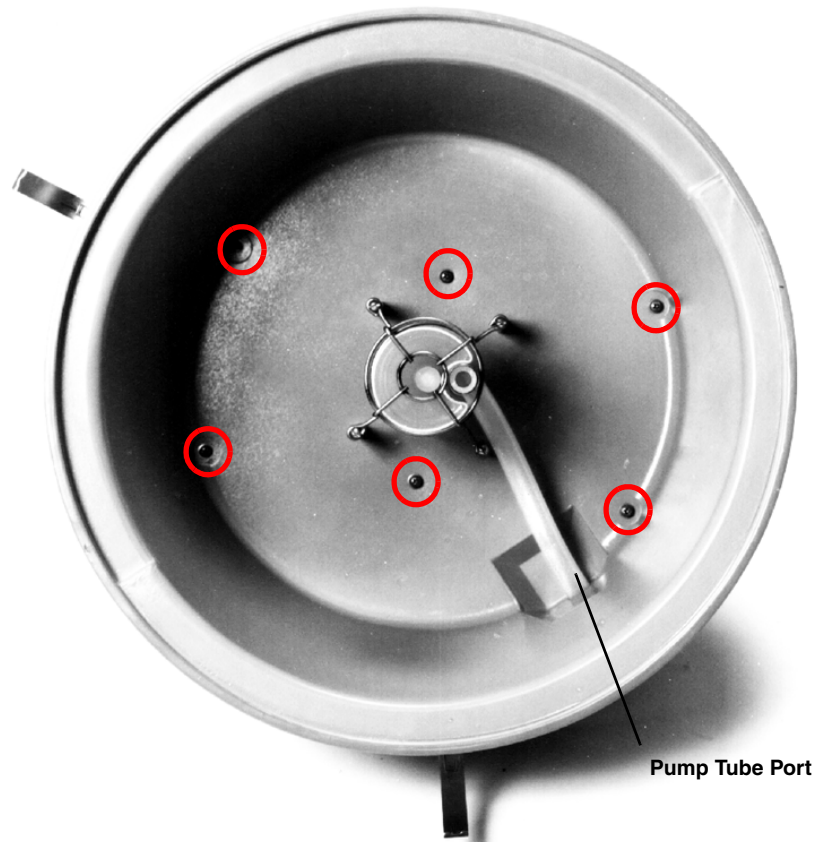

Figure 6-1 Removing the Control Box (by unscrewing the 6 screws)
3. Remove the suction line from the pump, and turn the center section over, as shown in Figure 6-1, on page 6-3.
5. The control box may then be removed by unscrewing the six screws indicated in Figure 6-1, and lifting the center section off the control box.